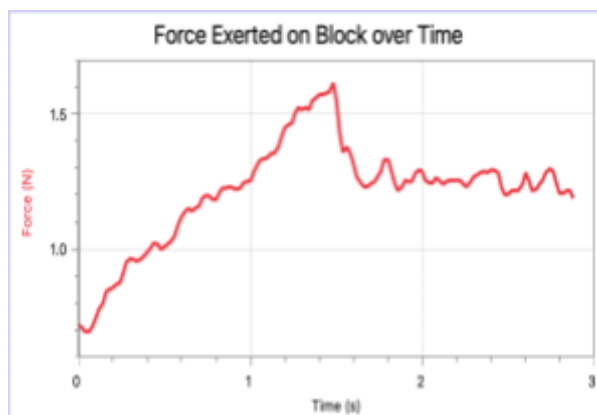

Fig 2: Sample graph
- This is how your graph should look; figure 2 shows a sample graph. Analyze different regions of the graph. Locate the area(s) that represent the presence of static friction and kinetic friction.